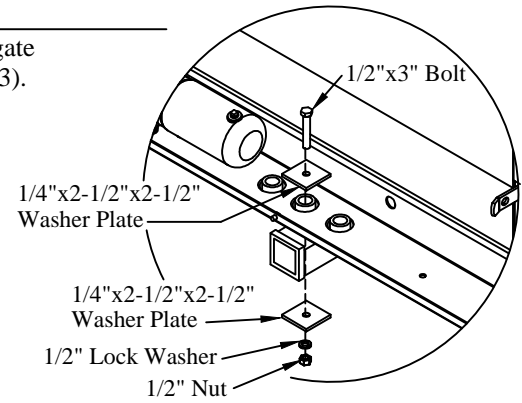

Figure 23: Lower bracket support (Class 4 hitch).
- 1. Assemble** the supplied hardware through the center hole in the bottom of the liftgate mainframe and the center hole in the factory hitch plate on the truck (Figure 23).